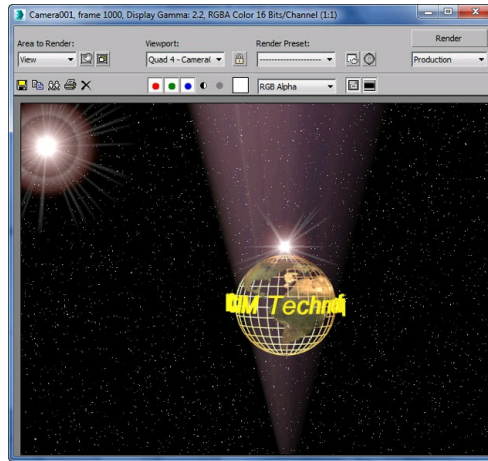

Figure 14-60 The scene at rendering after assigning a map to **Projector Map**
26. In the **Advance Effects** rollout of the Modify panel, select the **Map** check box in the **Projector Map** area. Then, choose the **Projector Map** button labeled as **None** and assign a bitmap image of your choice to this map to give a more realistic effect to the **Volume Light** at rendering, refer to Figure 14-60.